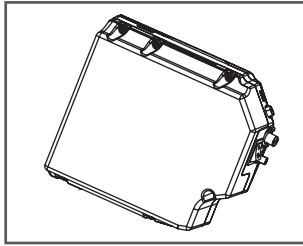

Figure 19
- a. Loosen the 6 self-tapping screws from inside of the electric wheelchair (i.e. back of the battery box) and open the back cover, see Figure 19. The methods are same for left side and right side;